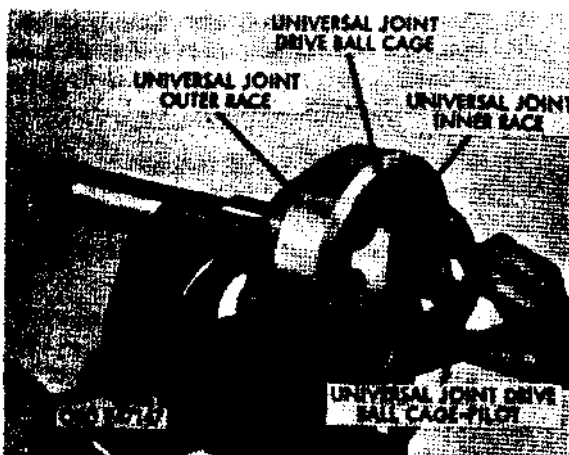

Figure 357. Removing universal joint drive ball cage pilot
- (8) Remove inner shaft pilot. Turn ball cage and ball race assembly completely over and remove inner shaft pilot (fig. 357).